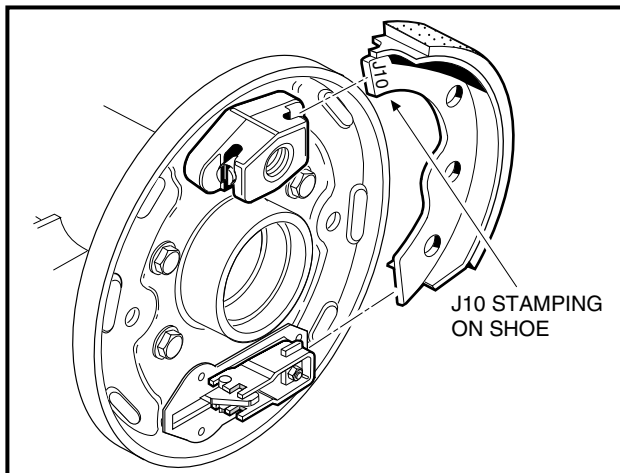

Figure 6-22 Position Shoes
1. Position one shoe in the slots in the mounting block and brake actuator (**Figure 6-22, Page 6-10**). See following **WARNING**.
- WHEN INSTALLING BRAKE SHOES, THE SHOES MUST BE ORIENTED WITH TIPS STAMPED **J10** INSERTED INTO THE MOUNTING BLOCK SLOTS RATHER THAN INTO THE BRAKE ACTUATOR SLOTS (**FIGURE 6-22, PAGE 6-10**). INCORRECTLY INSTALLED BRAKE SHOES WILL BE TOO TIGHT AND MAKE ADJUSTMENT OF THE BRAKE IMPOSSIBLE.